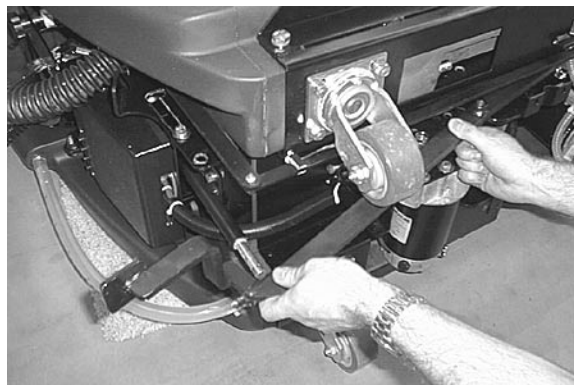

Fig. 13
1. Position the new squeegee lift pedal arm in machine as shown (Figure 13).